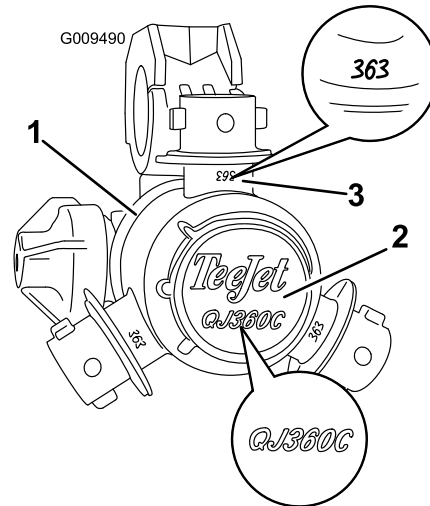

Figure 2
- Models with a “QJ360C” revision level will have a “QJ360C” on the turret plug face and “363” on the turret arms as shown in Figure 2. Use the bag with part number 108-3266 to replace the Viton seal and O-ring at the base of the turret body.